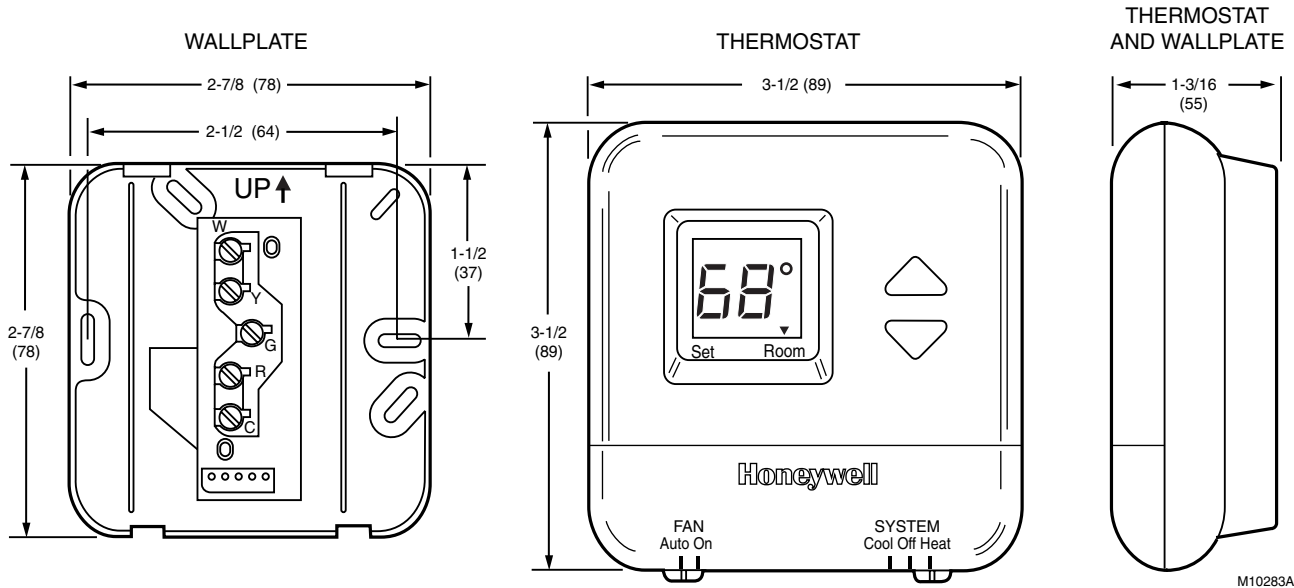

Fig. 1. T8400/T8401 Thermostat dimensions in in. (mm).
**Dimensions:** See Fig. 1 or 2.